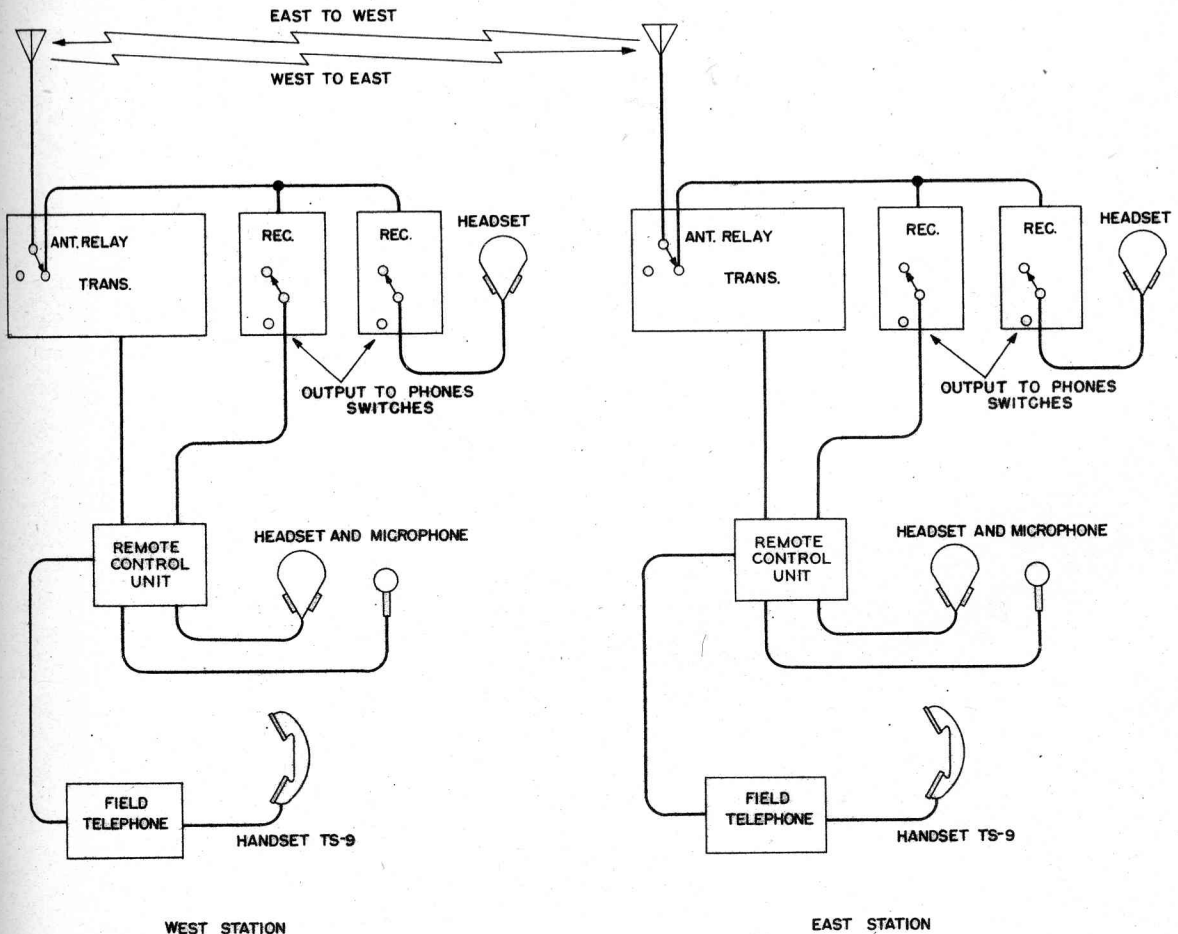

Fig. 23. Radio Set SCR-608-A: System Block Diagram
The radio set may be used in either of two communications systems: (1) radio communication only, or (2) radio-plus-wire telephone communication. In the first instance the radio equipment needs no auxiliary apparatus other than Microphone T-17, T-30, or T-33 and Headset HS-30-(*), HS-18, or HS-23. In the second instance Remote Control Unit RM-29-D is used to connect a remotely located field Telephone EE-8-(*) to the radio equipment. Figure 23 shows a system block diagram.